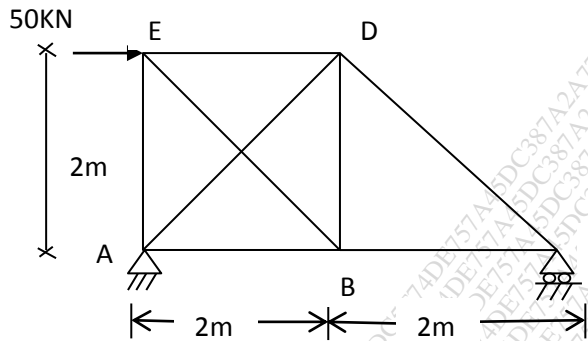

Fig. 3
Q.4 Analyze the pin jointed redundant truss as shown in fig. 3 take $EI = \text{constant}$ 15